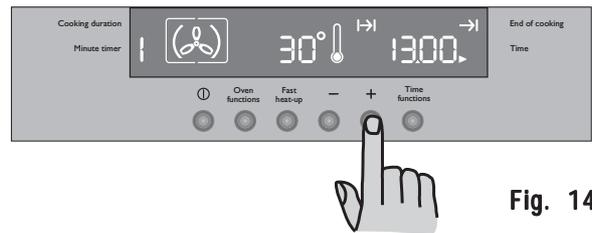

Fig. 14
- 2) Press button Time function until the "End of Cooking" function → is selected and the relevant symbol flashes. The control panel will display the end of cooking time (that is, the actual time + cooking duration time - Fig. 14).